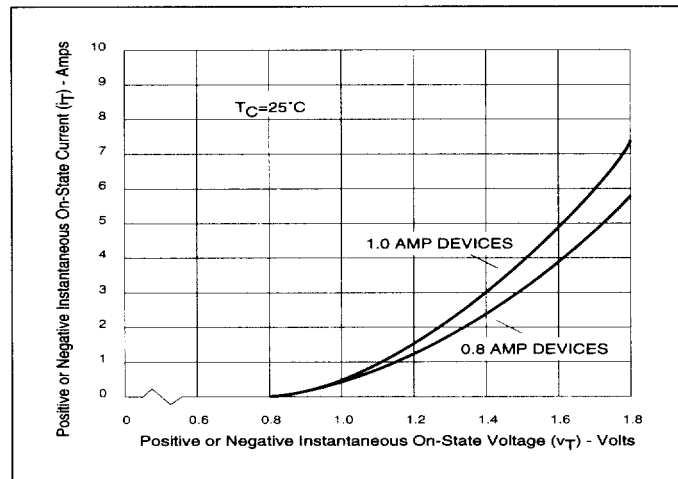

Figure 2.8 On-State Current vs On-State Voltage (Typical) (0.8 and 1.0 Amp)
- (5) See Figures 2.8 through 2.10 for I_T vs v_T .